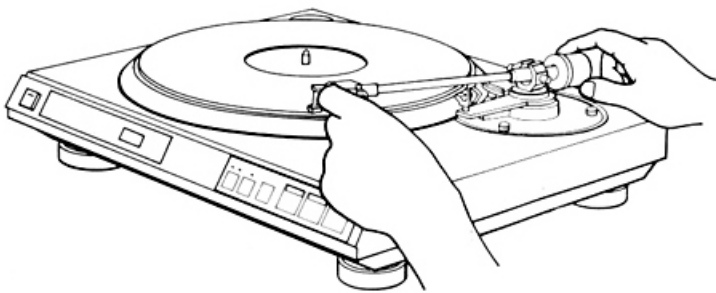

Abb. 3 / Fig. 3
1. Release the tonearm from its rest position. Hold the tonearm loosely by the tonearm lift (Fig. 3). Rotate counterweight in either direction until the tonearm starts to rise. Continue adjusting the counterweight until the tonearm floats (balanced) and is parallel to the surface of the platter.